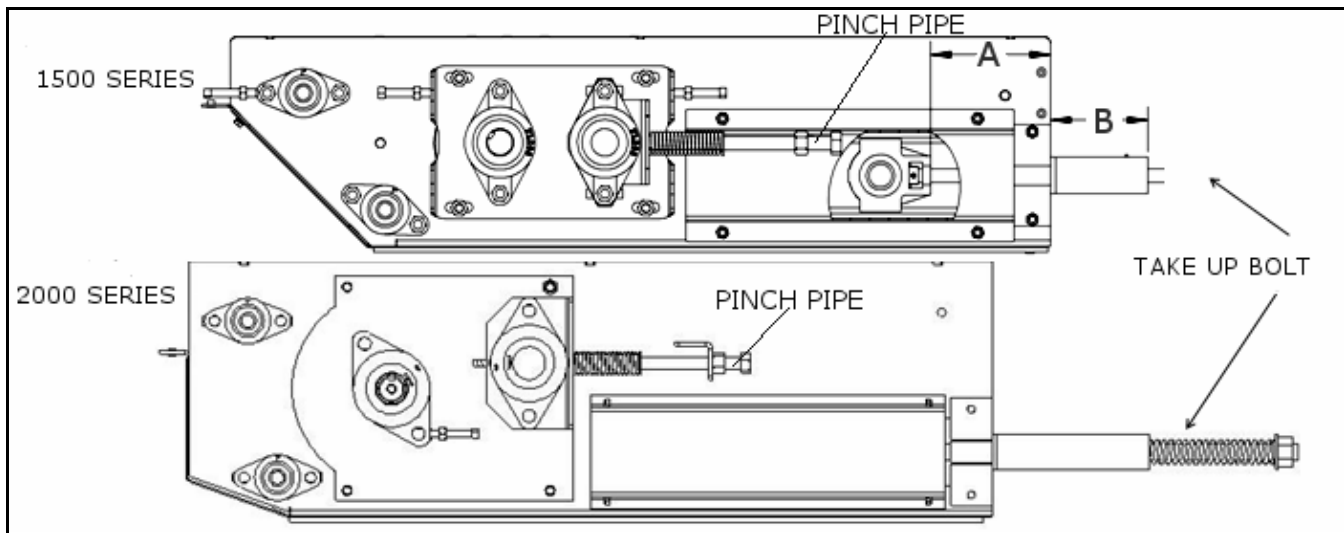

Figure 8.1 Pinch S-Drive
1. Tighten take-up bolts 1"; ensure they are equal (see Figure 8.1).
1. Tighten take-up roller bolts so that springs compress and match dimension B (Figure 8.1). If springs are already properly compressed, then tighten the take-up bolts 1"; ensure they are tensioned equally by measuring the position of the take up roller dimension A (Figure 8.1.). Tension until both sides are equal. Check belt tension by running conveyor for one minute. If belt is not slipping, then proceed to next step; otherwise repeat from step 1.
2. Tighten tightener bolts equally, use tape to verify (see Figure 8.1). Belt should deflect 1-2" when pushed down with a 5 lb force on 10' span, or be difficult to pull from sides of hopper transition. Take-up springs will stretch under load. However, the spring should not come loose during operation. Tension springs to match pretensioner length to start. Increase if required.
3. Do not adjust the take-up roller on the s-drive; instead, use a tape measure and measure dimension 'A' on both sides of the s-drive as shown in Figure 8.1 to ensure take-up bearings/bolts are tightened equally.
1. Measure length 'A' in Figure 8.1 on each side of s-drive. If lengths not equal then adjust nuts until equal.
3. Measure length 'A' in Figure 8.1 on each side of s-drive. If lengths not equal then adjust nuts until equal.